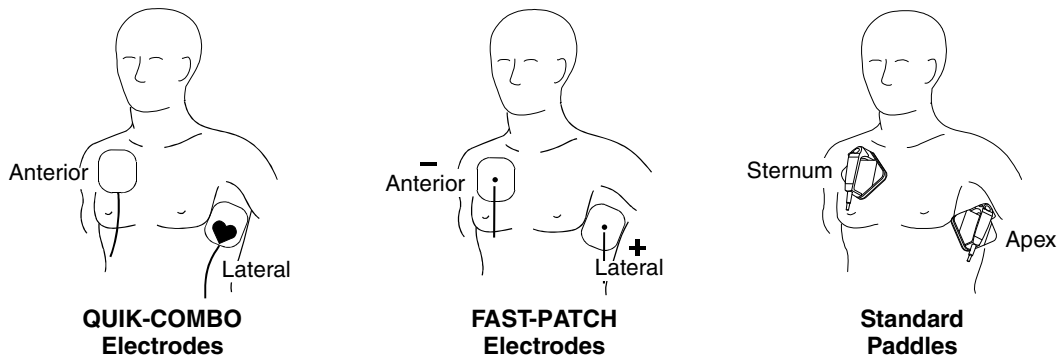

Figure 3-1 Anterior-lateral Placement
- 1 Place either the ♥ or + therapy electrode, or APEX paddle lateral to the patient's left nipple in the midaxillary line, with the center of the electrode in the midaxillary line, if possible. See Figure 3-1.
- 2 Place the other therapy electrode or STERNUM paddle on the patient's upper right torso, lateral to the sternum and below the clavicle as shown in Figure 3-1.